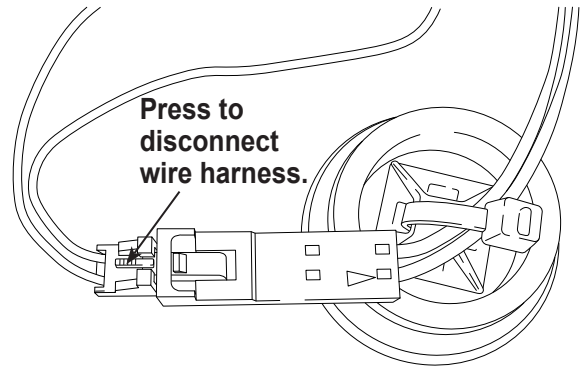

Figure 24
6. Disconnect the wire harness at the connector by pressing on the center tab. Pull the connectors apart. See Figure 24.